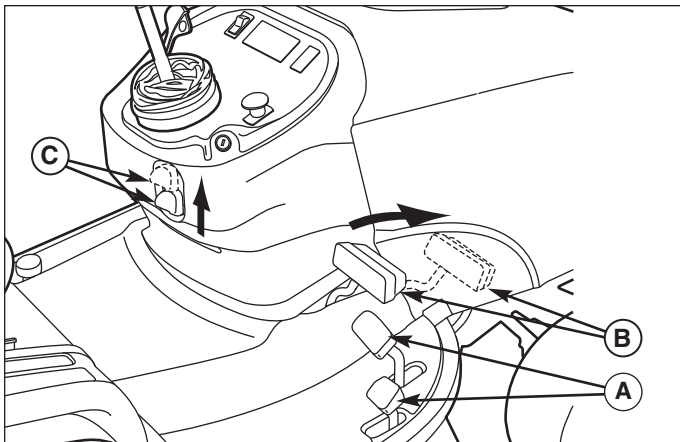

Figure 3. Engaging the Parking Brake
Applying the Parking Brake - See Figure 3. To lock the parking brake, release the ground speed pedals (A), fully depress the brake pedal (B), pull UP on the parking brake knob (C), and then release brake pedal.
Releasing the Parking Brake - See Figure 3. To release the parking brake, fully depress the brake pedal (B) and push the parking brake knob (C) DOWN.